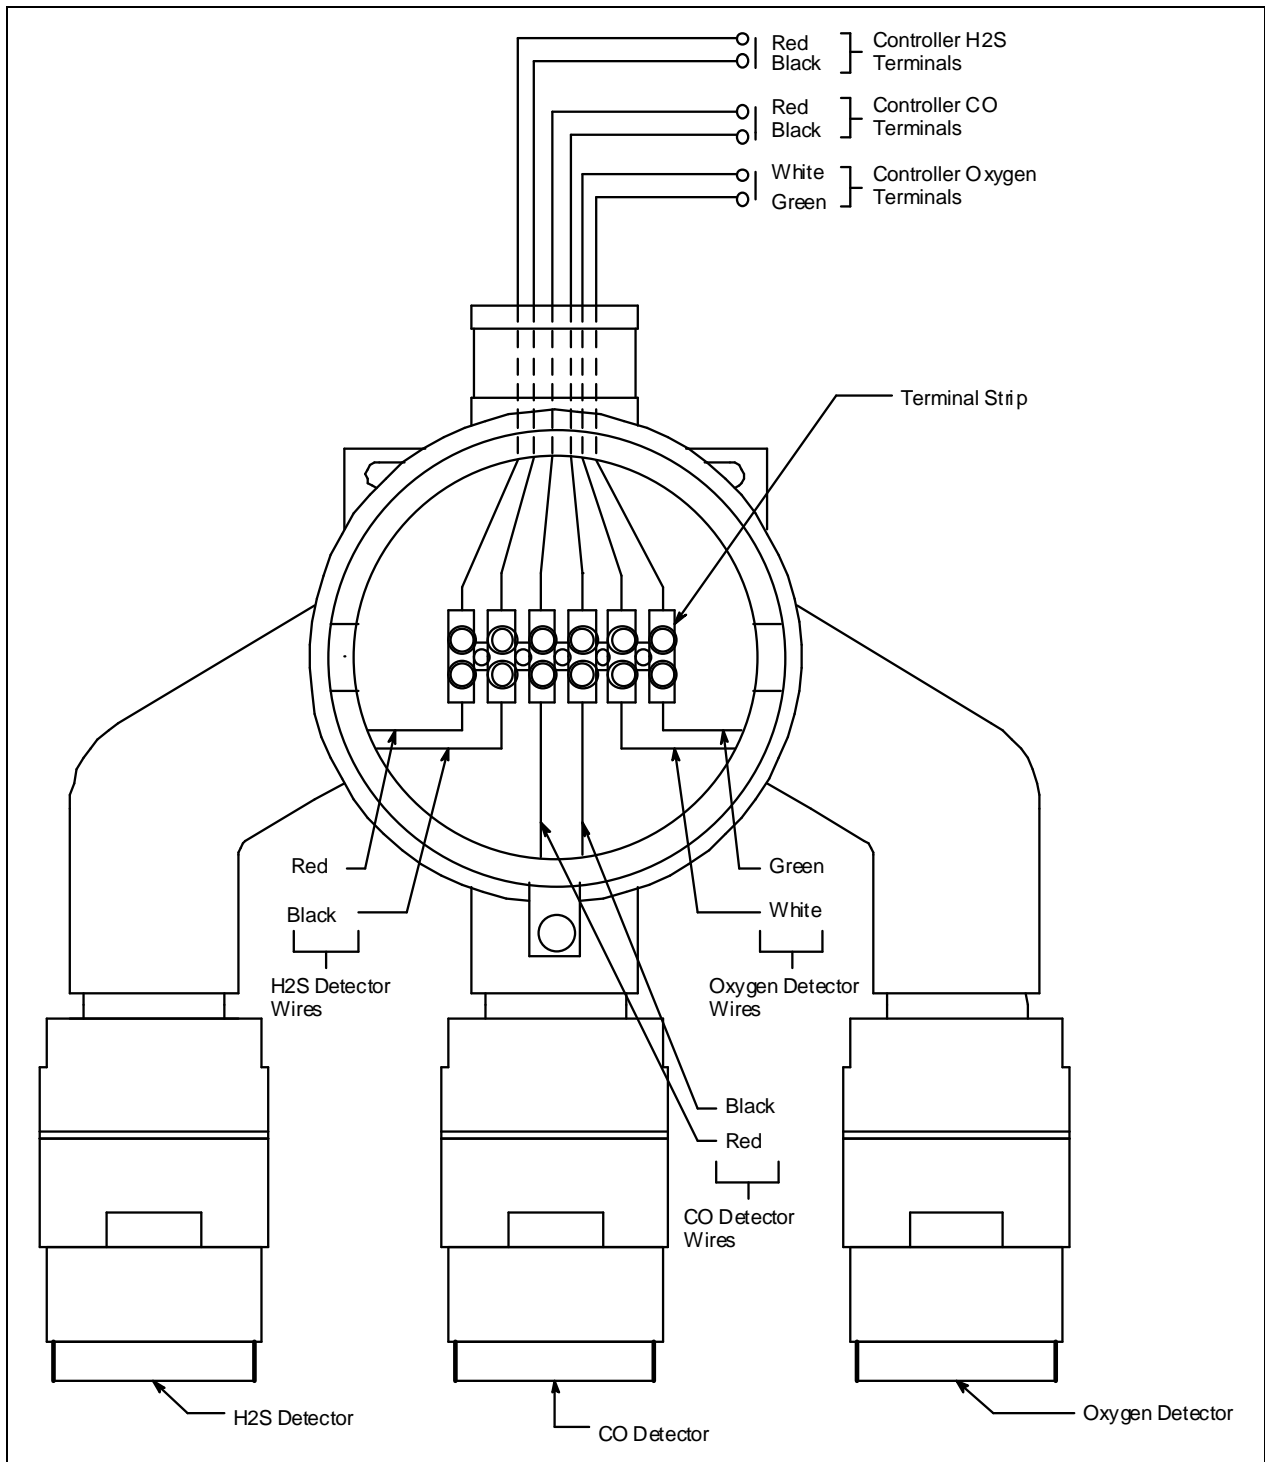

Figure 5: Wiring the 65-2485RK-02 to a Controller
8. Connect the wires to the applicable controller terminal strips. See the controller operator's manual and the controller's detector head specification sheet. Also see Figure 5 for a wiring diagram.
7. Connect the detector leads to the terminal block the same way the old detector was wired. See the controller operator’s manual and the controller’s detector head specification sheet for the oxygen detector to verify the connections are correct. Also see Figure 5 for a wiring diagram.